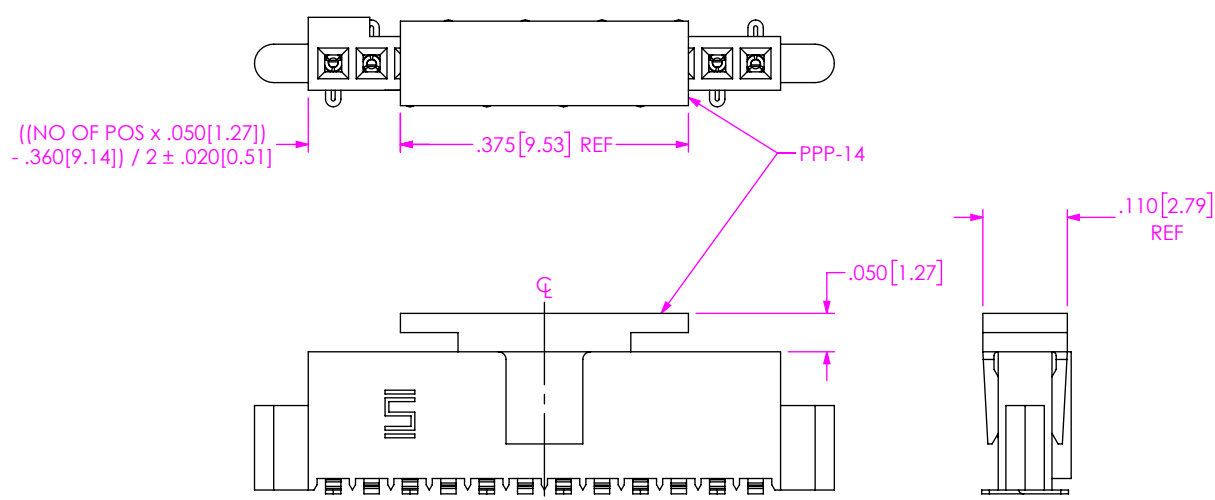

FIG 4
-P: PICK AND PLACE PAD (SEE FIG 4)